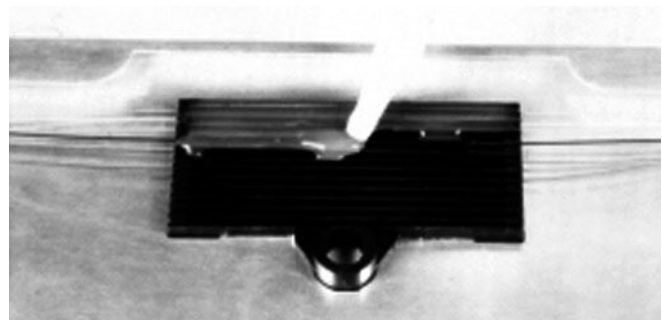

Figure 14
- b. Fill the slots holding splices with RTV as shown in Figure 14. Do not overfill and avoid the empty slots.